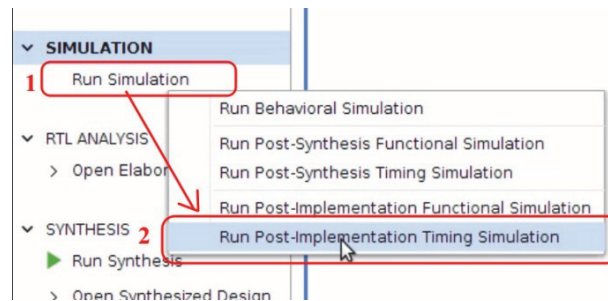

Fig. 8. Post-Implementation Timing Simulation
4.3.1 After implementation, we can perform post-implementation simulation as shown in Fig. 8. In the Vivado Simulation window, type **run all** in the terminal or click **run all (F3)** on the Top Toolbar.